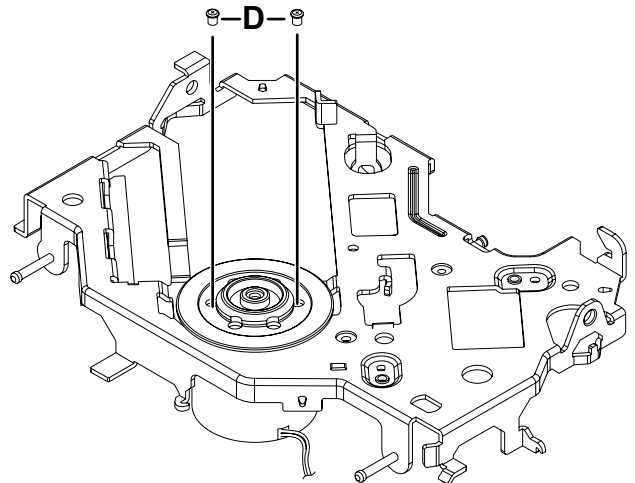

Fig.10
- (3) Remove the 2 screws **D** attaching the spindle motor. (See Fig.10)